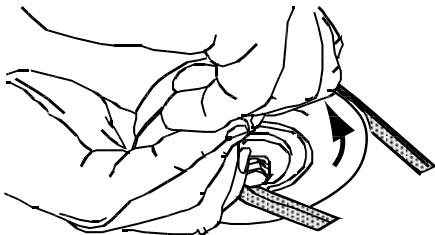

Figure 4-18
9. Pull the right side of the belt and place the narrow V side of the belt into the PTO pulley. See Figure 4-18.